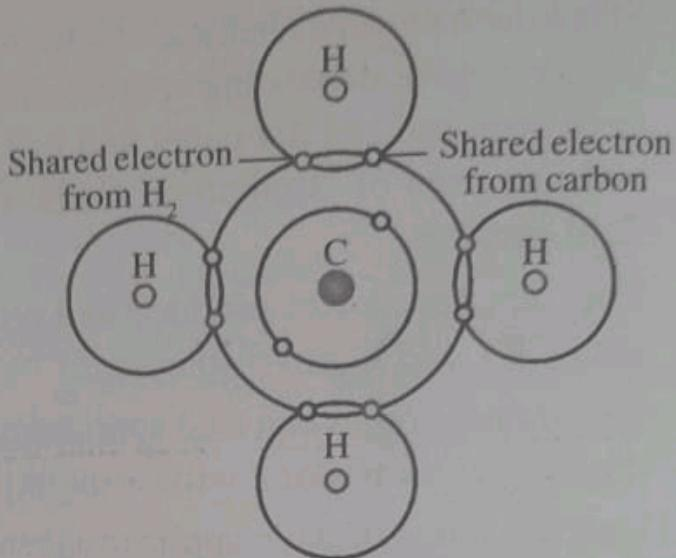

Figure 7.5: Schematic representation of covalent bonding in a molecule of methane (CH_4)
i.e. they are composed of hydrogen and carbon. In hydrocarbons intramolecular bonds are covalent. Each carbon atom has four electrons that may participate in covalent bonding, whereas every hydrogen atom has only one bonding electron. A single covalent bond exists when each of the two bonding atoms contributes one electron as shown in figure 7.5 for methane. Double and triple bonds between two carbon atoms involve the sharing of two or three pairs of electrons, respectively. For example in ethylene (C_2H_4) has two carbon atoms are doubly bonded and each is single bonded to two hydrogen atoms.